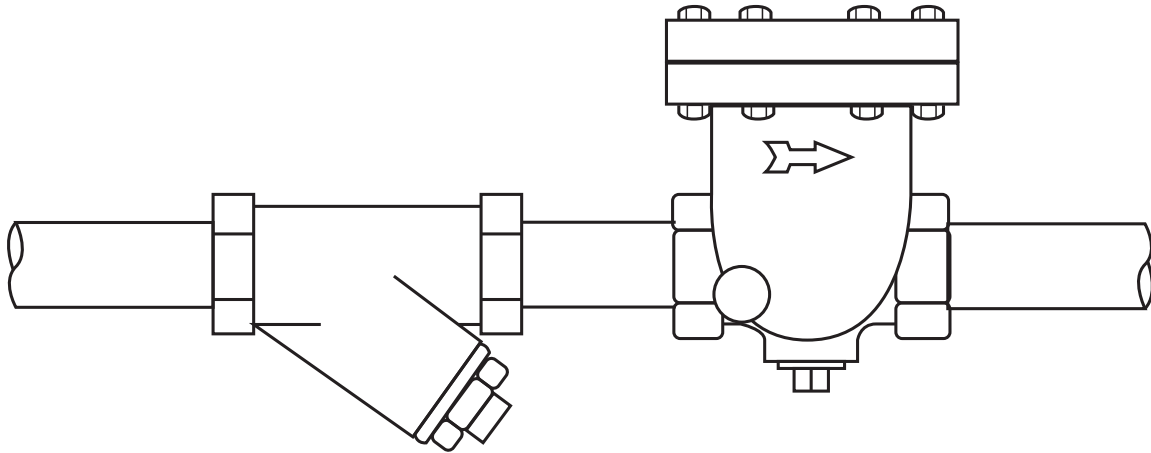

Figure 2. Recommended Piping Layouts
2. Check arrows on trap body or cover to ensure that flow direction is correct. See Figure 2 for recommended installation.